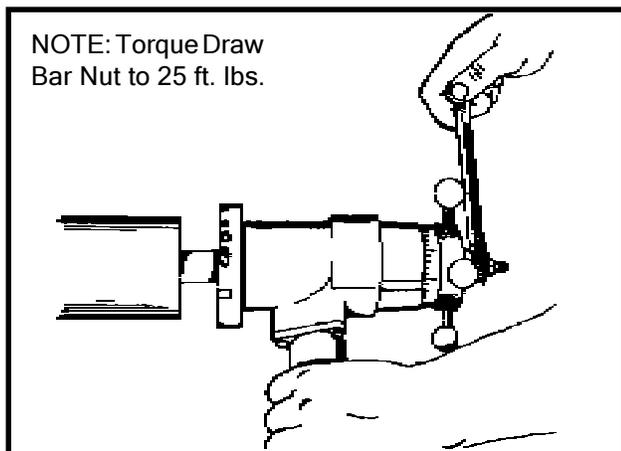

Figure 8
2. With one hand, hold the machine concentric to the pipe. Place the supplied box end socket wrench on the Draw Bar Nut, rotating to expand the mandrel legs into the I.D. of the pipe. Move the machine back and forth and up and down slightly to make sure the chuck legs completely contact the pipe wall. The chuck legs will automatically center the machine to the pipe (Figure 8).